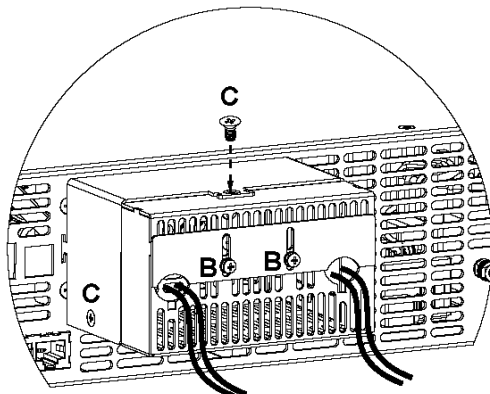

Fig. 3-10: Enclosure assembly
- f) Assemble the enclosure bottom cover to its place, as shown in Fig. 3-10, using screws "C", 3 places (tightening torque 4.8-5.3 Lb inch).